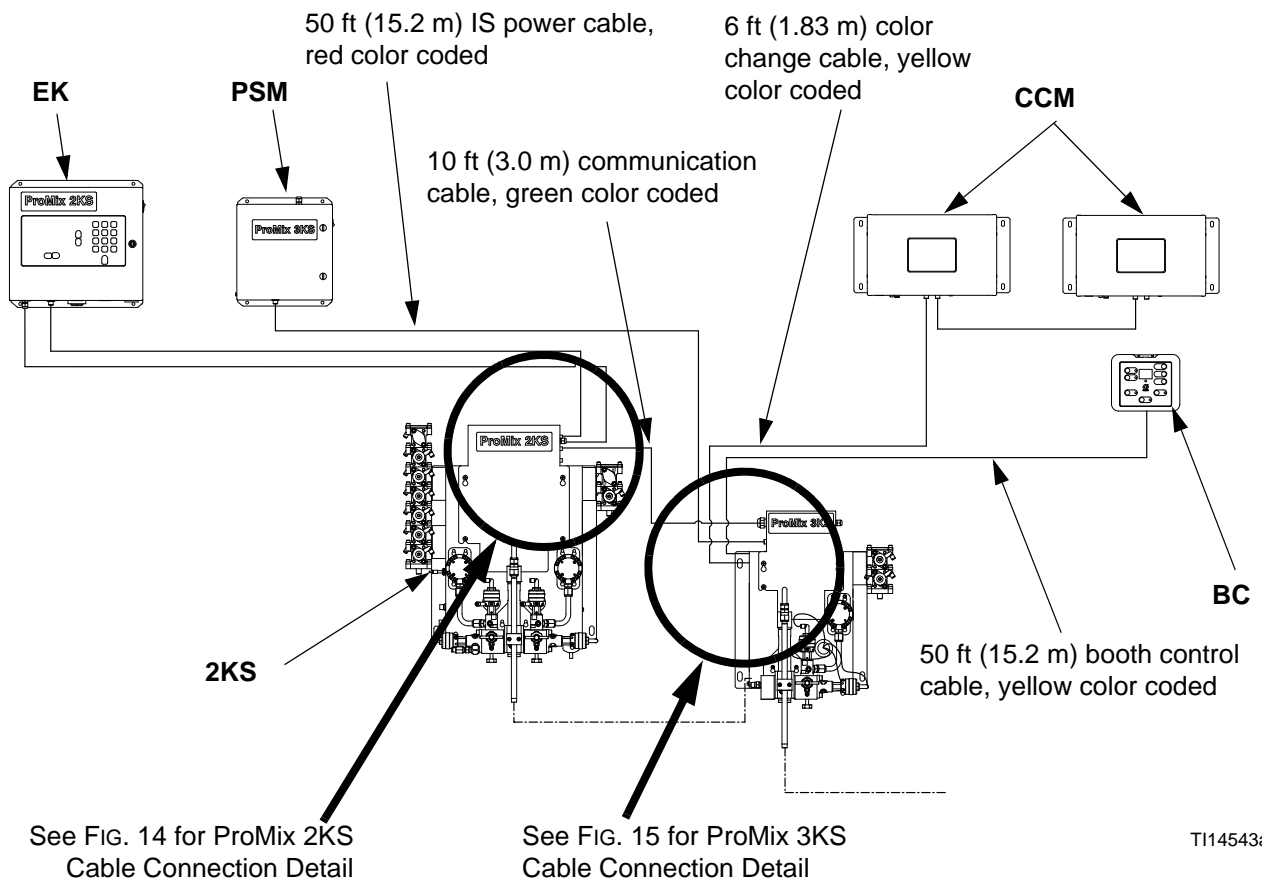

FIG. 13. ProMix 3KS Cabling Diagram
2. Connect the other cable end to the ProMix 3KS Fluid Station Control connector $\overset{\text{VDC}}{\pm}| | \text{---}$ (J3). See FIG. 13 and FIG. 15.
Connect the 50 ft (15.2 m) Booth Control Cable (Part No. 123280, yellow color coded) from the Booth Control to the ProMix 3KS Fluid Station connector  (J1). See FIG. 13 and FIG. 15.
Connect the 6 ft (1.83 m) Color Change Cable (Part No. 123277, yellow color coded) from the Color Change Module to the ProMix 3KS Fluid Station connector  (J2). See FIG. 13 and FIG. 15.
CAN (J8). See FIG. 13, FIG. 14, and FIG. 15.